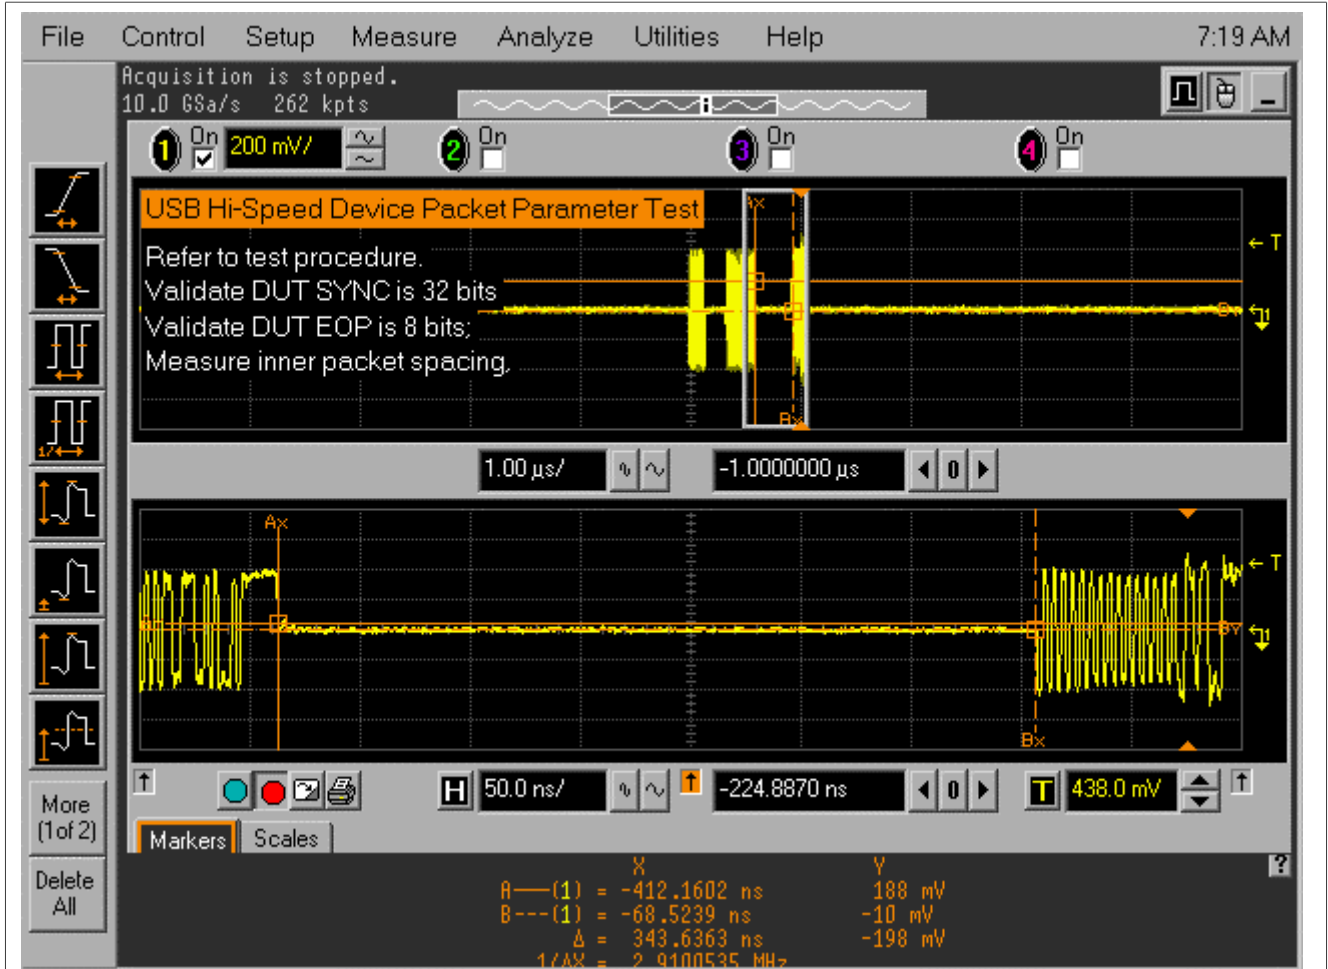

Figure 38. EL\_22 Device Inter-packet Gap (Between Second and Third Packets) Waveform
6. In the Device Test menu of the HS Electrical Test Tool, click **STEP** once again. This is the second step of the two-step **Single Step Set Feature** command. Oscilloscope will measure the inter-packet gap between the first (from host) and the second (from device in respond to the host's) packets (**EL\_22**), as shown in Figure 38.